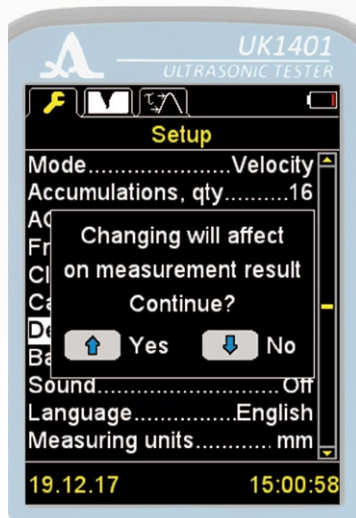

Figure 14
- confirm switching to the parameter edit mode (Figure 14).